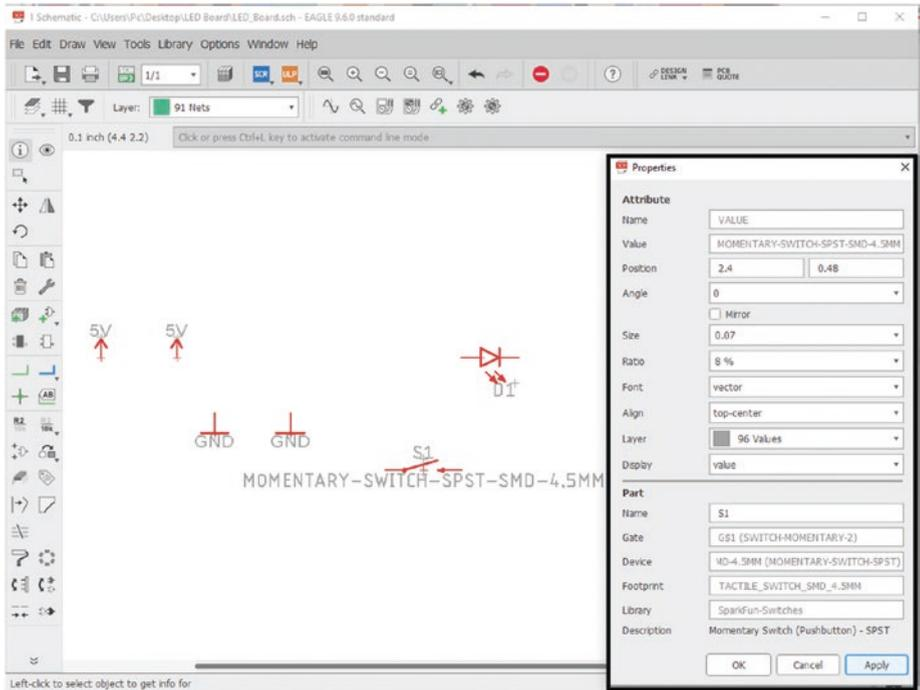

Figure 5-30. Update the value of the button
- Click the Info button and then click the switch you just placed. The info dialog window will open. See Figure 5-30.